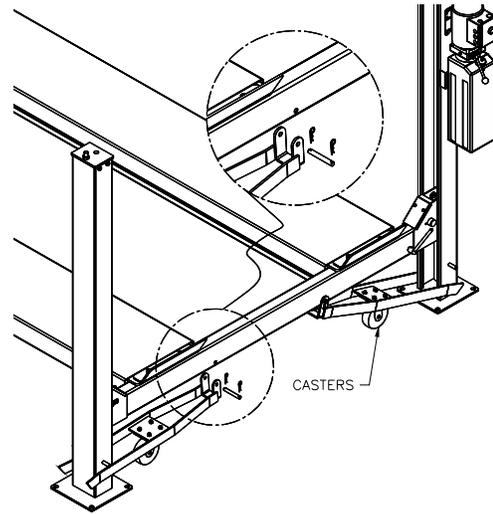

Fig 29 – Mobility Kit
- 1) This set of four casters when attached to the cross beams of an unloaded lift, **Fig 29**, pick the lift up and allow it to be rolled to a different location.